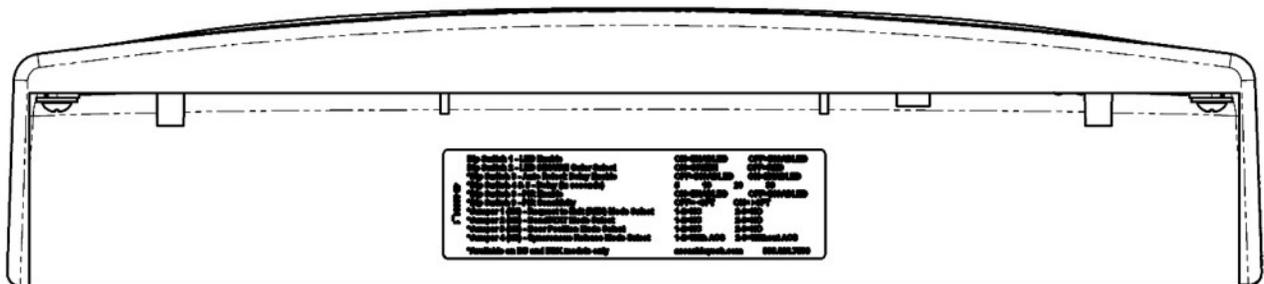

Figure 31. Settings Label
2. COMPLETE the label and AFFIX it to the inside cover of the Magnalock (see Figure 31, “Settings Label”).